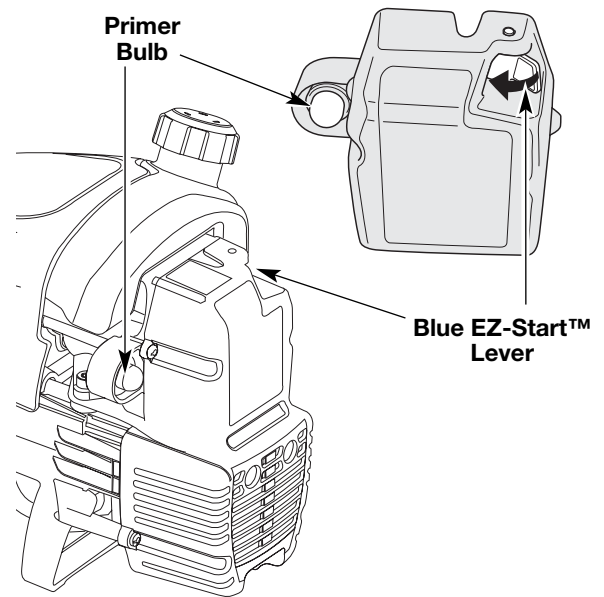

Fig. 7
2. Make sure the On/Off Stop is in the ON (I) position.
3. Fully press and release the primer bulb 10 times, slowly. Some amount of **fuel should be visible in the primer bulb** and fuel lines (Fig. 7). If you can't see fuel in the bulb, press and release the bulb as many times as it takes before you can see fuel in it.
4. **Push the blue EZ-Start™ lever towards the primer bulb** until it clicks and locks into place (Fig. 7).